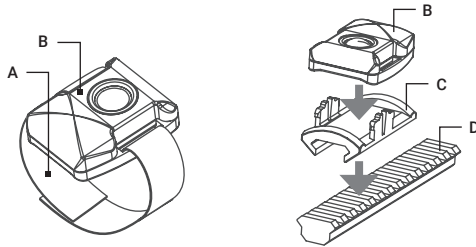

FIGURE 2-2. ADVANCED WIRELESS REMOTE CONTROL
Using the supplied Velcro tape (A, Figure 2-2), fasten the remote control (B) to an easily accessible place.